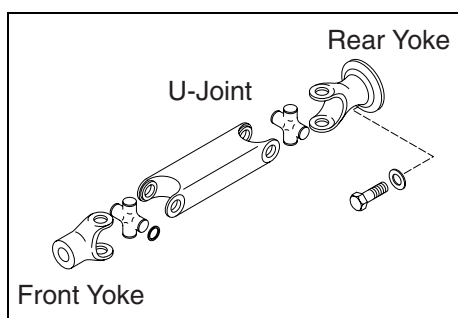

Figure 4C-1. Drive Shaft
1. Remove the four socket head screws securing the rear yoke to the engine drive plate (Figure 4C-1).